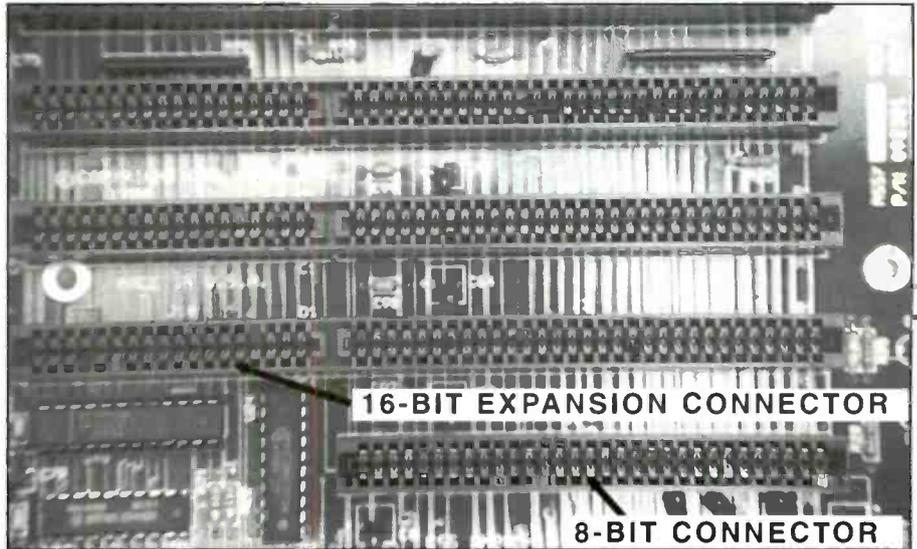

Figure 1. Eight-bit connector and sixteen-bit extension connector.
**Figure 1.** Before April 1 1982, the number used to identify picture tubes was different in the United States, Europe and Japan. Here is the number from an American CRT from that vintage. The first two digits identifies the diagonal picture size, the second set of characters designates the CRT type and the third set of characters designates the phosphor type.
The expansion bus provides the pathway to system memory, control and power. The original IBM PC used an 8-bit data bus and a 20-bit address bus that ran at the system clock speed of 4.77MHz. Connection to the bus was made via a 62-pin, 0.1-inch edge card connector (Table 1). As the PC evolved, the AT class was introduced. It contained an 80286 microprocessor with a 16-bit data bus and a 24-bit address bus that operated at a clock speed of 6MHz (Table 2). The larger address and data buses required an additional 36-pin connector that mounted behind the existing 62-pin connector (Figure 1).